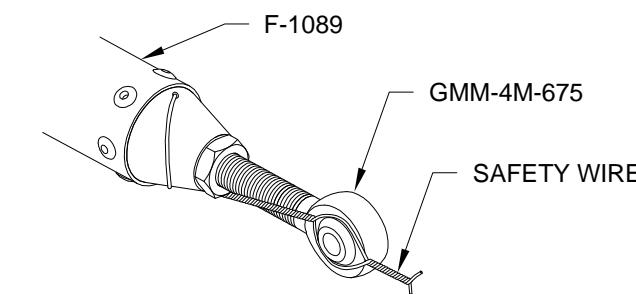

FIGURE 1:
Step 1: Safety wire the forward end of the F-1089 Elevator Pushrod Assembly which has the GMM-4M-675 rod end bearing installed as shown in Figure 1. Form a loop that loosely encircles the bearing to the right side of the rod end. This loop will be pinned by the attach bolt.